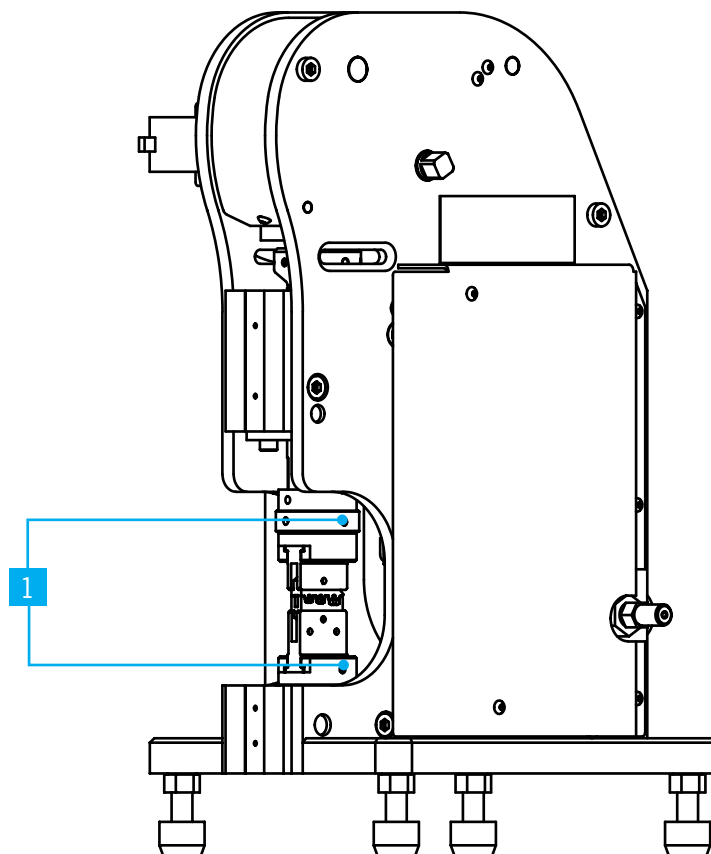

Abb. 4
- Loosen the adapter for the upper and lower intake with one complete turn by using an Allen wrench Fig. 4/1
- Tighten the screws of the adapter in the upper and lower part of the adapter Fig. 4/1
- Loosen the adapter for the upper and lower intake by using an Allen wrench Fig. 4/1